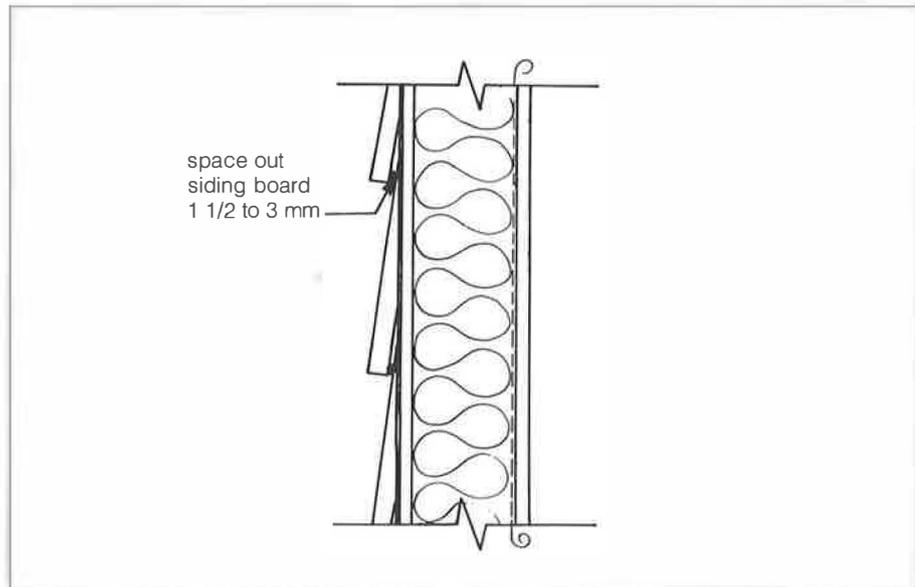

Fig. 20. Wetting of wall by capillary action
- Wedge thin shims between siding boards or use round head nails to leave a space between the boards to reduce wetting by the capillary action of rain water (*fig. 20*).